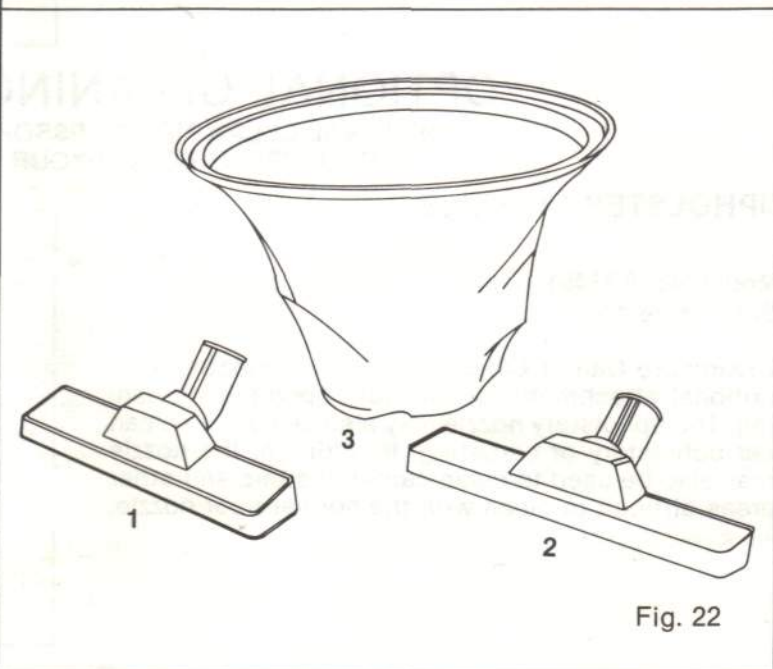

Fig. 22
**NOTE:** You must use the cloth filter assembly contained in the kit shown below when "Dry" Cleaning. See Figure 22.
**NOTE:** You must use the cloth filter assembly contained in the kit shown below when "Dry" cleaning. See Figure 22.
See Figure 22.